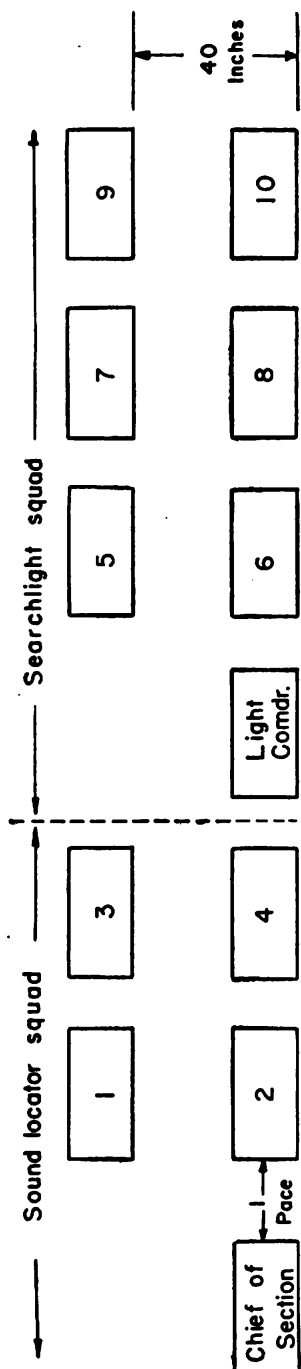

FIGURE 81.—Formation of personnel of antiaircraft searchlight section.
(1) Sound locator squad.
(2) Searchlight squad.
Q. Of what personnel does the sound locator squad consist? A. See figure 81.
Q. Of what personnel does the searchlight squad consist? A. See figure 81.